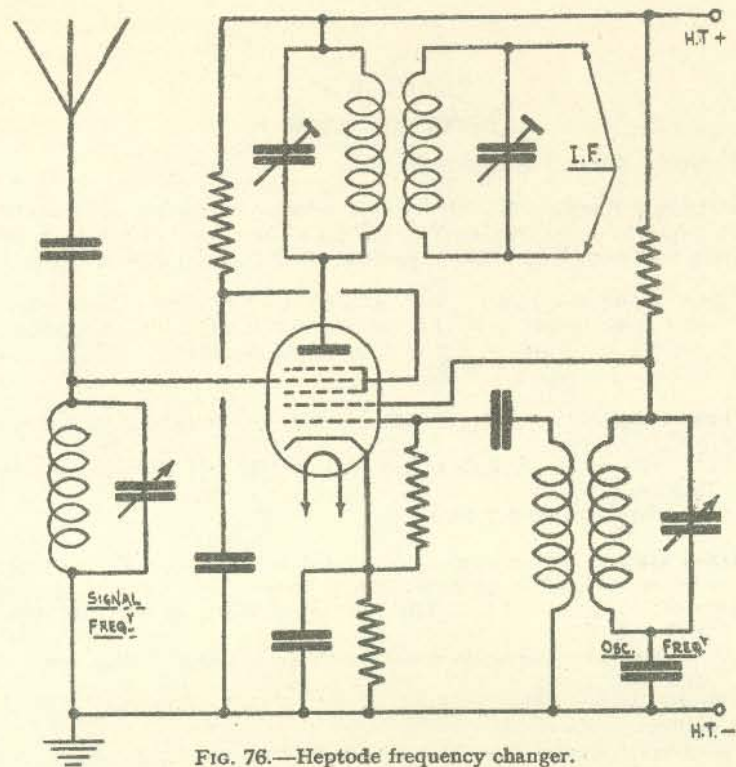
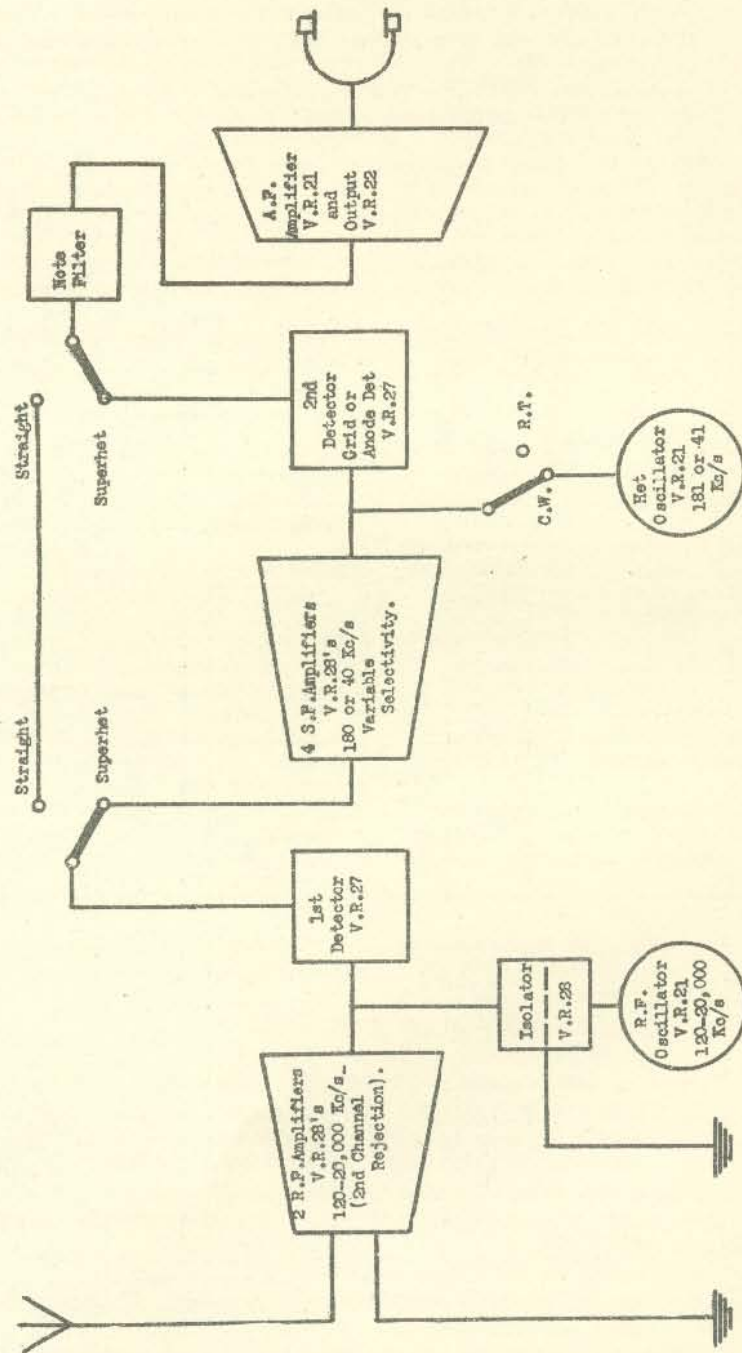
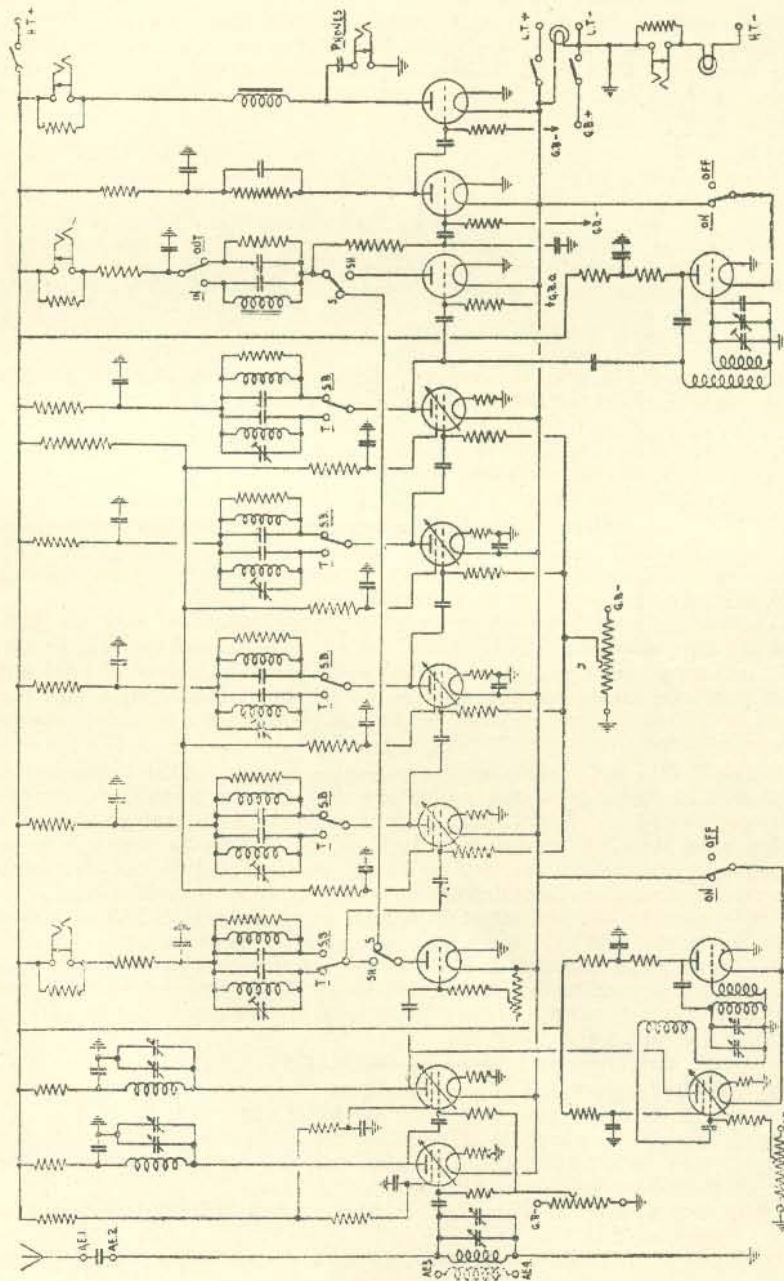

FIG. 76.—Heptode frequency changer.
Fig. 78.—Block diagram R 1084.
FIG. 79.—Receiver R.1084.
This scheme is used in the receiver R.1084 (figs. 78 and 79). The same result can be achieved by using a multi-electrode frequency changer valve of the types shown in figs. 76 and 77. Here the oscillator and "first detector" valves are combined in one envelope, and the coupling is electronic. Besides saving two valves, this system has the advantage of much greater efficiency, a given input signal producing considerably more S.F. output.
6. **Circuit.**—A schematic diagram is shown in fig. 78 and a complete circuit diagram in fig. 79:—